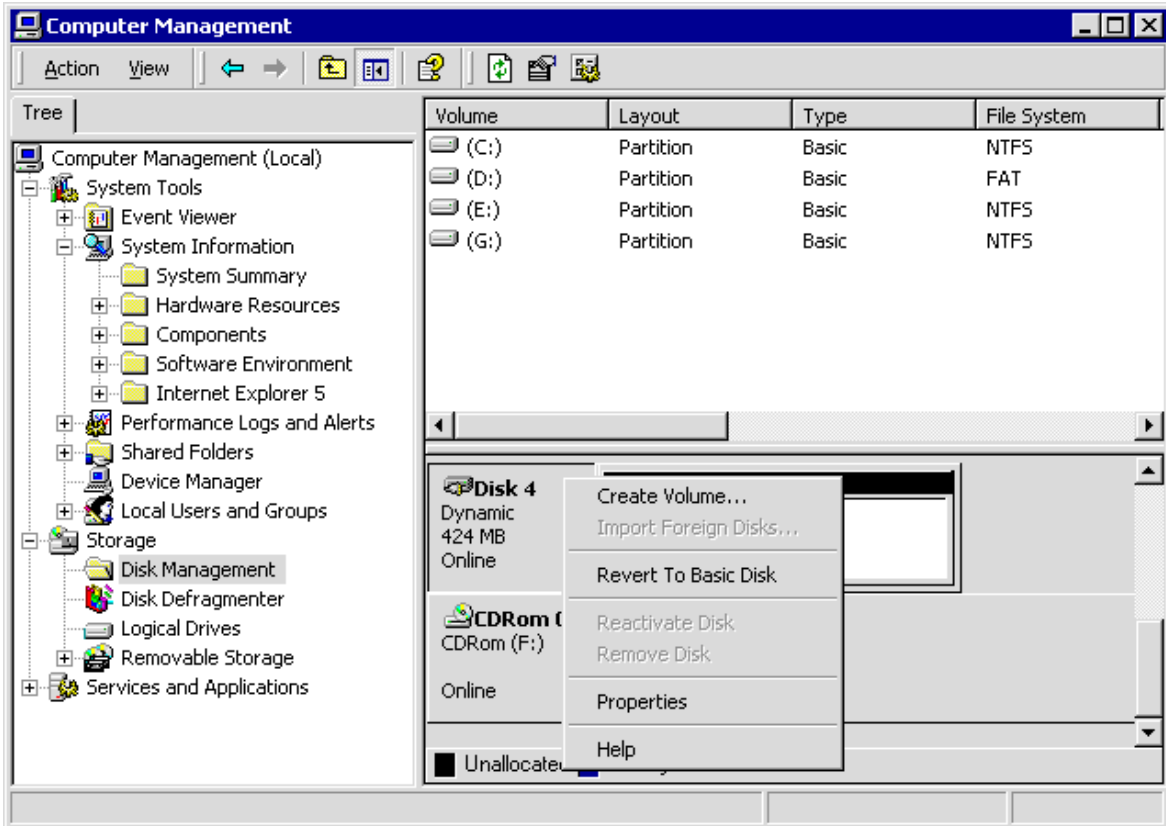

Figure 27. Changing a shared logical drive to Basic Disk
- 1) With the right-mouse button, click the Disk icon at the bottom of the Disk Management window (see Figure 27 on page 112).